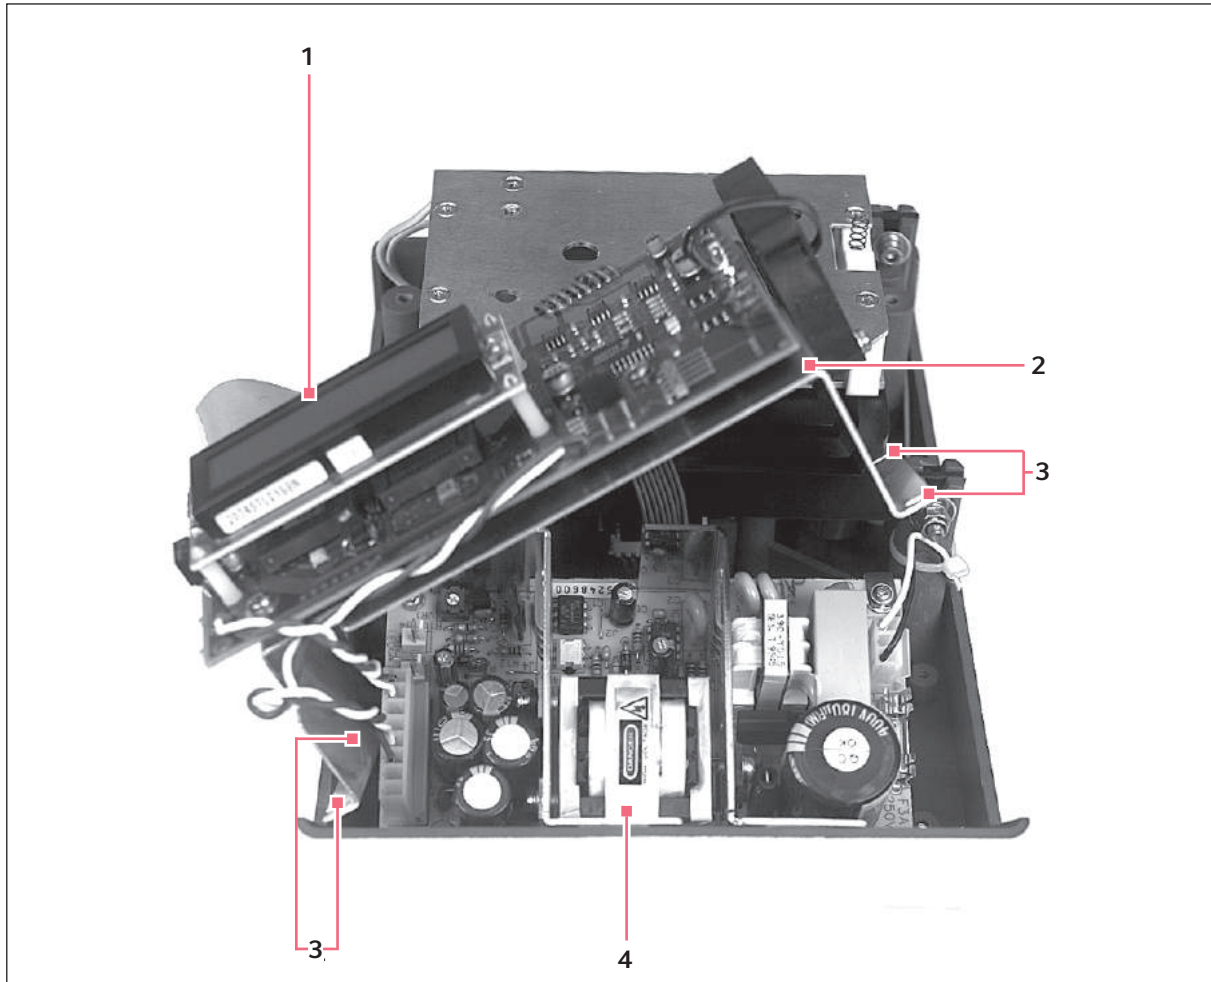

Fig. 6-4: Internal view
1. Remove the four fastening screws from the PCB. (see Fig. 6-4 on p. 28)
2. Remove the four fastening screws of the angular plate (see Fig. 6-4 on p. 28).
(see Fig. 6-4 on p. 28)